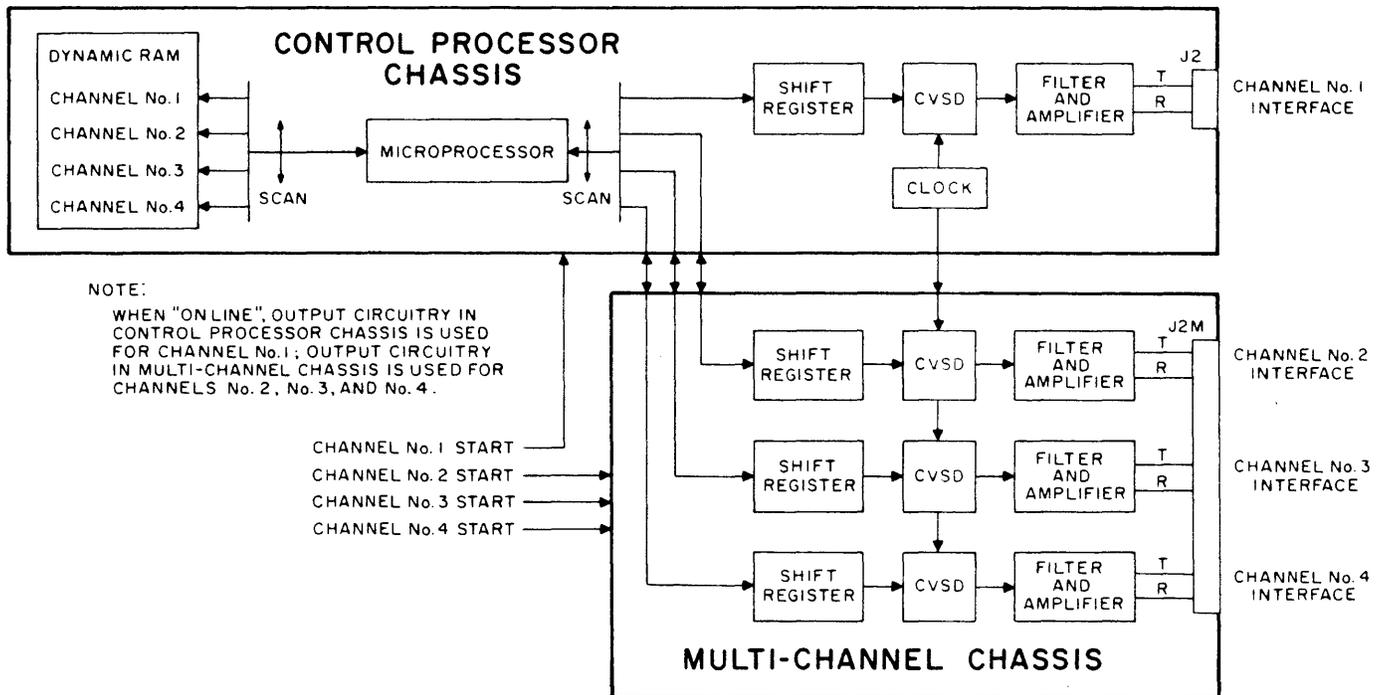

Fig. 4 - ON LINE Mode Block Diagram
4.14 A simplified block diagram of the multi-channel digital announcer operation in ON LINE mode is shown in figure 4, and explained as follows. When "on line", the digital announcer is ready to accept external start commands at the various channel interfaces. In ON LINE mode, the C.P. Chassis provides the circuitry and interface (J2) for Channel No. 1 output; the M.C. Chassis provides the circuitry and interfaces (J2M) for output of Channels No. 2, No. 3, and No. 4. Each channel can be independently accessed with a separate start command at its respective interface. (Accessed channel numbers will be shown on the digital display.) When a start command is received at one of the interfaces, the microprocessor recognizes the channel accessed, retrieves the data for that channel from memory, and routes it to the proper channel by a scanning process, where the original voice signal for that channel is regenerated by the corresponding CVSD and output circuitry.